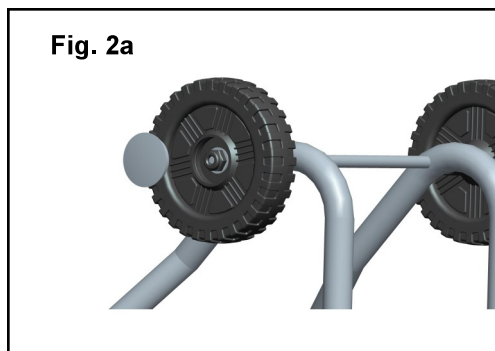

Fig. 2a
3. Press the wheel covers into the wheels to cover the ends of the axles. You may use a hammer to seat them securely over the axles. There may be some clearance between the wheel and the wheel cover, it is not necessary to press it to the bottom. (See Fig. 2a, 2b).